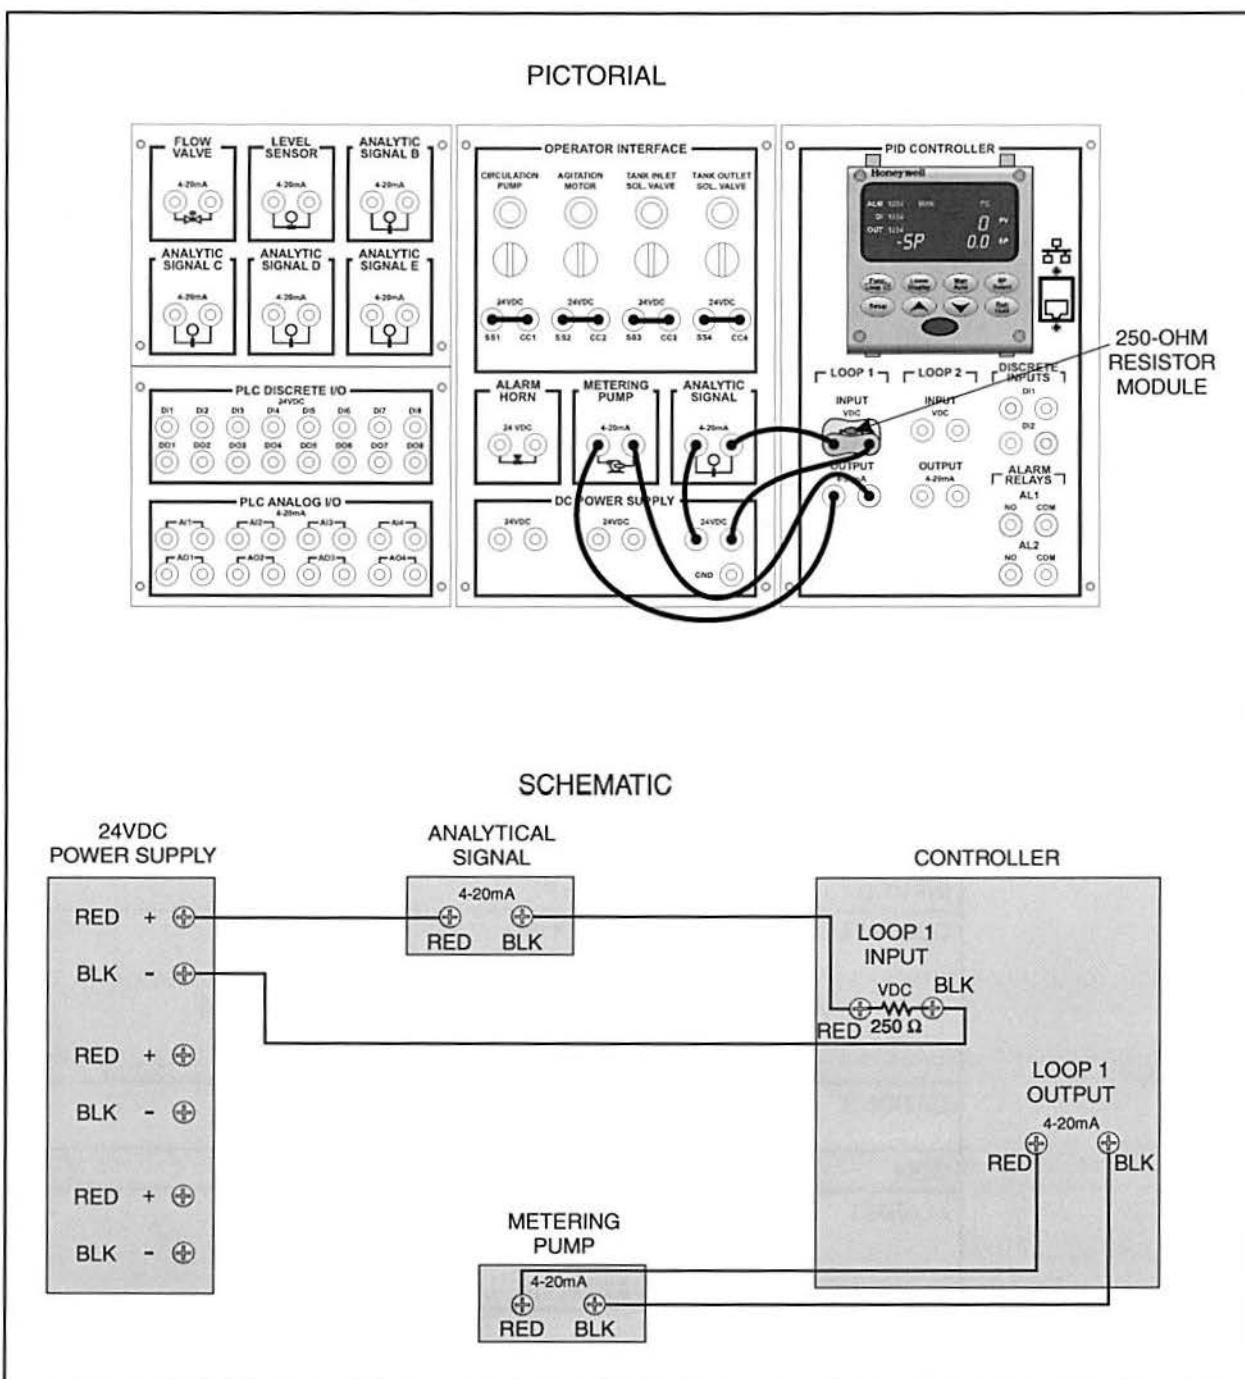

Figure 58. Continuous pH Control Circuit
- 2. Connect the circuit shown in figure 58.